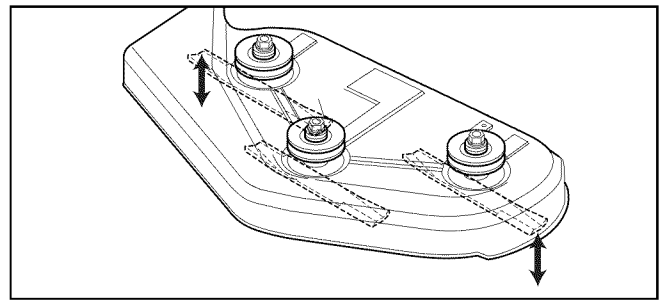
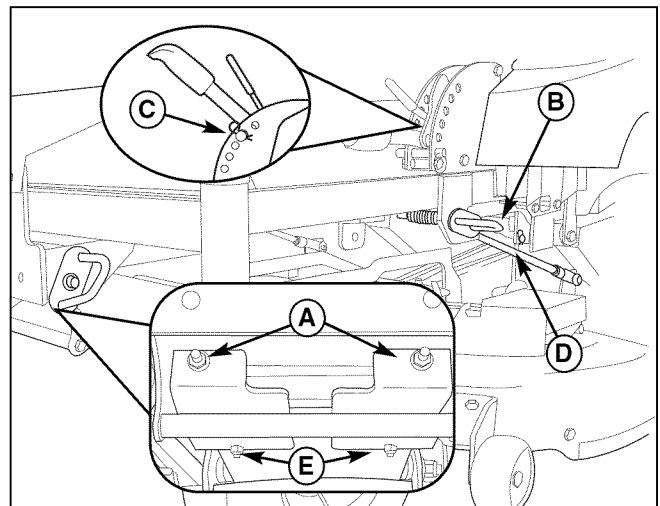

Figure 40. Orient Blades Side-to-Side
Figure 42. Mower Leveling
3. Place the mower cutting height pin in the 4th hole from the bottom (see insert, Figure 42). Arrange the outside mower blades so that they are pointing from side-to-side (Figure 40).
4. Measure the distance between the outside tips of each blade and the ground (Figures 40 & 41). If there is more than 1/8" (3mm) difference between the measurements on each side, proceed to step 5.
5. Use the rear leveling links (B, Figure 42) to adjust the side-to-side leveling of the deck. Repeat step 4 if necessary.
9. Loosen the front lock nuts (E, Figure 42).
10. Turn the leveling nuts (A, Figure 42) counter-clockwise to lower the front of mower deck. Turn the nuts clockwise to raise the front of the mower. Make adjustments in small increments, trying to keep tension on both leveling nuts.
11. Tighten the front lock nuts (E).
3. Place the mower cutting height pin in the 4th hole from the bottom (C, Figure 42).